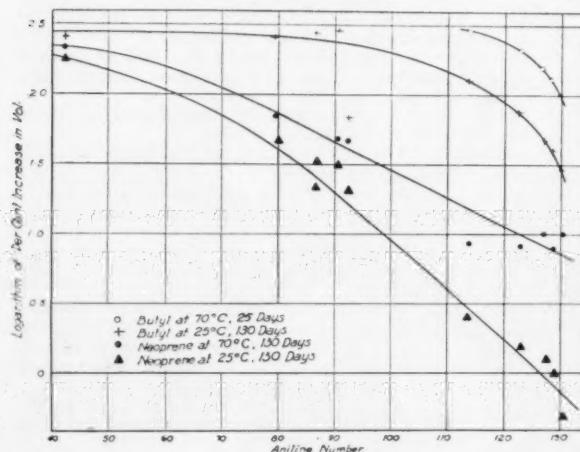

Fig. 1 The effect of aniline point of oil on swelling of synthetic rubbers
**Hydraulic Oils.** Aside from the usual requirements of hydraulic oil, that it should not thicken excessively when it is cold nor thin out excessively when it is hot (viscosity index) and have long life with resistance to gumming of valves (oxidation stability), it should have a negligible effect on the rubber components which may be included in the system. As an indication of this effect, the aniline point of the oil is important. This is ASTM Test No. D611-53T. The most common material for making rubber components for hydraulic uses is neoprene which, for the most part, is not affected by oil. However, in Fig. 1 is shown a curve of the effect of aniline number on the swelling of neoprene and butyl rubber, indicative of the fact that, while neoprene is relatively unreactive, it is not totally inert. Fortunately most oils in common use today do not go much below an aniline number of 100c; and 75c is considered marginal. Some companies find it necessary, however, to specify an aniline number in certain applications. This is being done at least by one farm equipment company in the case of hydraulic oils and by another manufacturer in the case of track-roller grease.